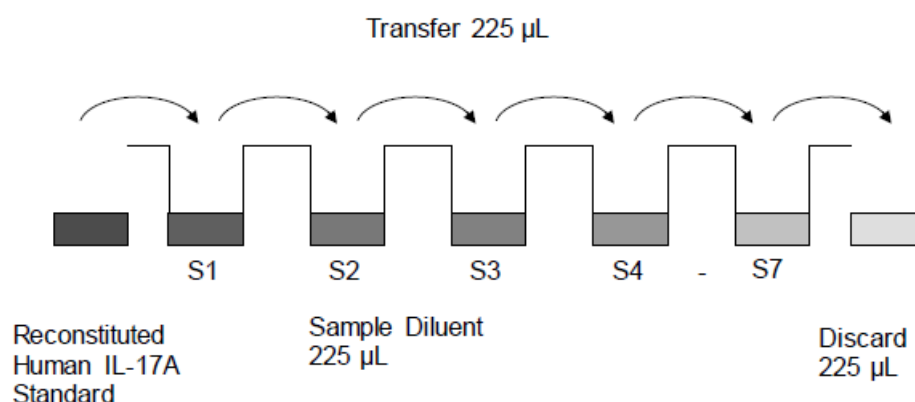

Fig.1 Dilute standards - tubes.
5. Repeat serial dilutions 5 more times thus creating the points of the standard curve (see Figure 1).